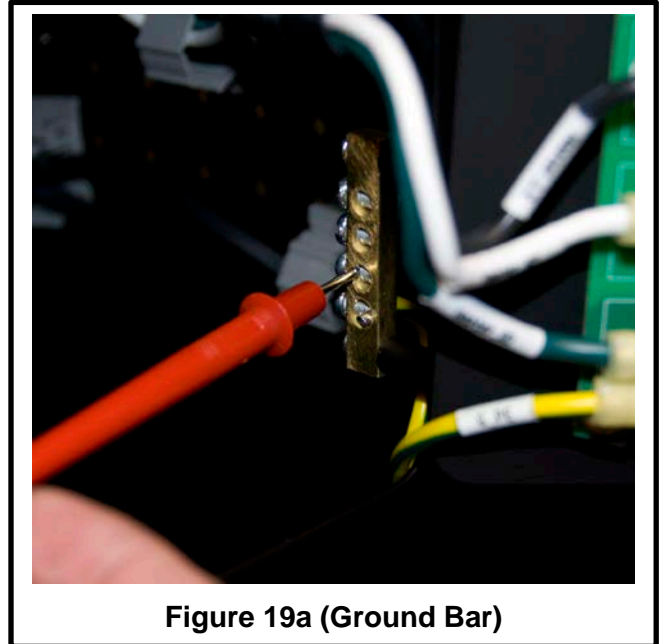

Figure 19a (Ground Bar)
2. Connect the multimeter between the copper grounding bar and the green wire connection on the fireplace’s AC input screw terminal as shown in Figures 19a and 19b. Verify that the reading is 0 Ohms (within 0.1 Ohms of the reference value previously noted).